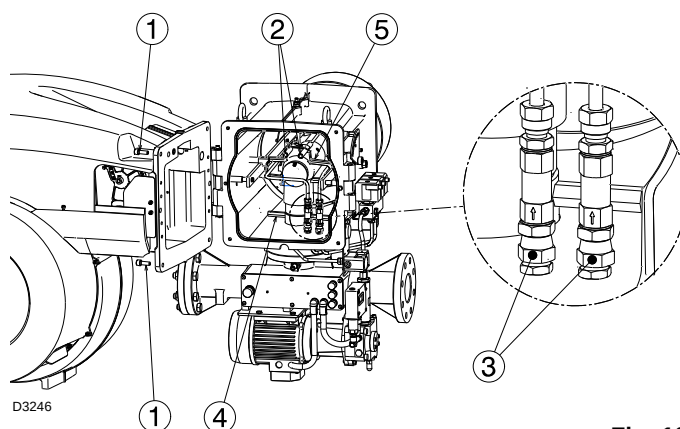

Fig. 12
- Open burner at hinge (Fig. 12) after removing the 4 fixing screws 1).